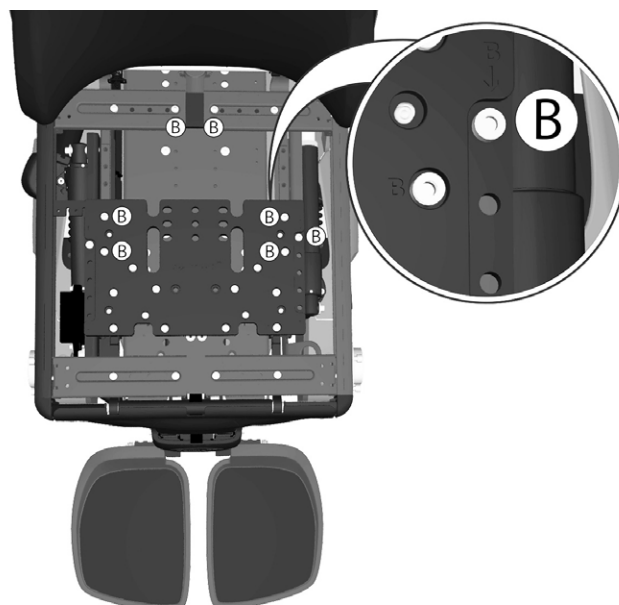

Figure 83. The position of the rear section of the Seat frame (Back rest Position) is fixed by five screws marked with the letter B.
3. Pull the rear section of the seat backwards to the correct seat depth setting. Tighten the seven screws marked (B) securing the Seat frames rear section, see fig. 83.